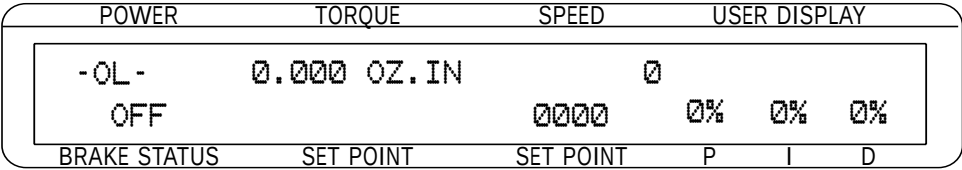

Figure 5-6 Power -OL- Display
- A. When the power exceeds that of the maximum power setting, the message -OL- will appear and blink in the power section of the display (as indicated in Figure 5-6).